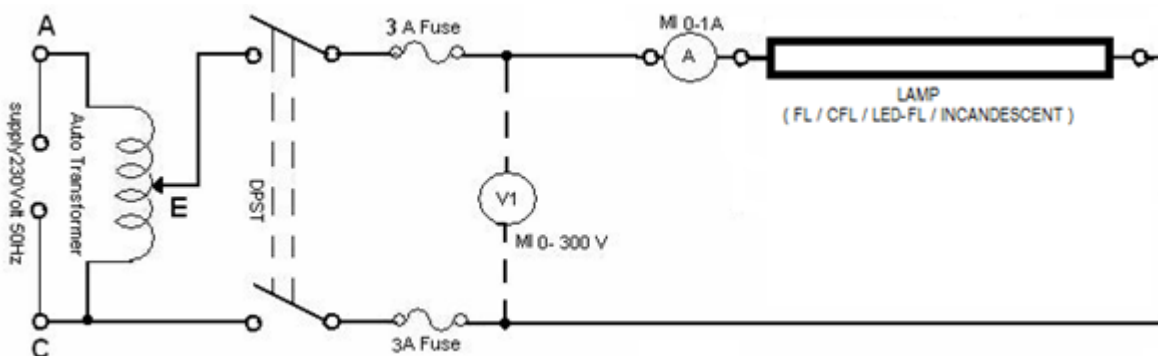

Fig 3: Circuit diagram for study of Lamp efficacies
1. Set up the circuit as shown in Fig.3 with (a) conventional FL using electronic ballast. Keep the DPST switch open.